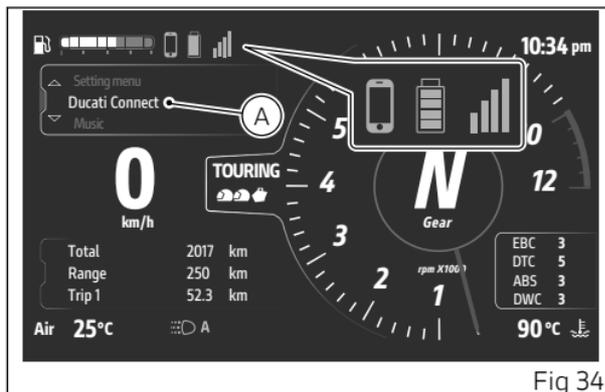

Fig 34
- start the Ducati Connect app (B) on your smartphone;
- from the app, press the motorcycle icon to start "Vehicle Mode" (C) , then the instrument panel connection wait screen is displayed (D) ;
- once the connection has been established, to ensure correct mirroring operation, the smartphone must be unlocked and have the Ducati Connect app active in the foreground (E) ; take care not to lock the screen unintentionally by pressing the "screen lock" key;
- on the instrument panel, use the joystick ▲ ▼ to select the "Ducati Connect" item from the Interactive Menu and press ENTER (A, Fig 34).
- on the instrument panel, use the joystick to select the “Ducati Connect” item from the Interactive Menu and press ENTER (A, Fig 34).